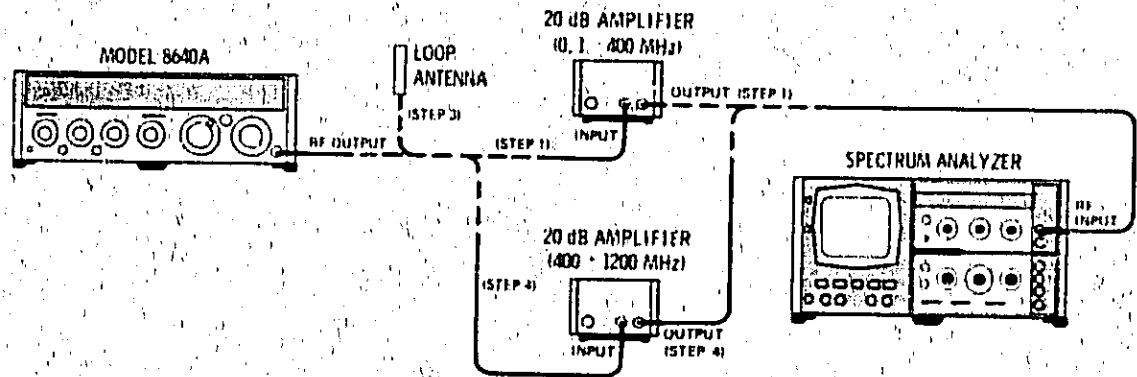

Figure 4-9. Output Leakage Test Setup
1. Connect equipment as shown in Figure 4-9 (with Signal Generator connected to spectrum analyzer through 0.5-400 MHz amplifier) after setting Signal Generator's controls as follows: